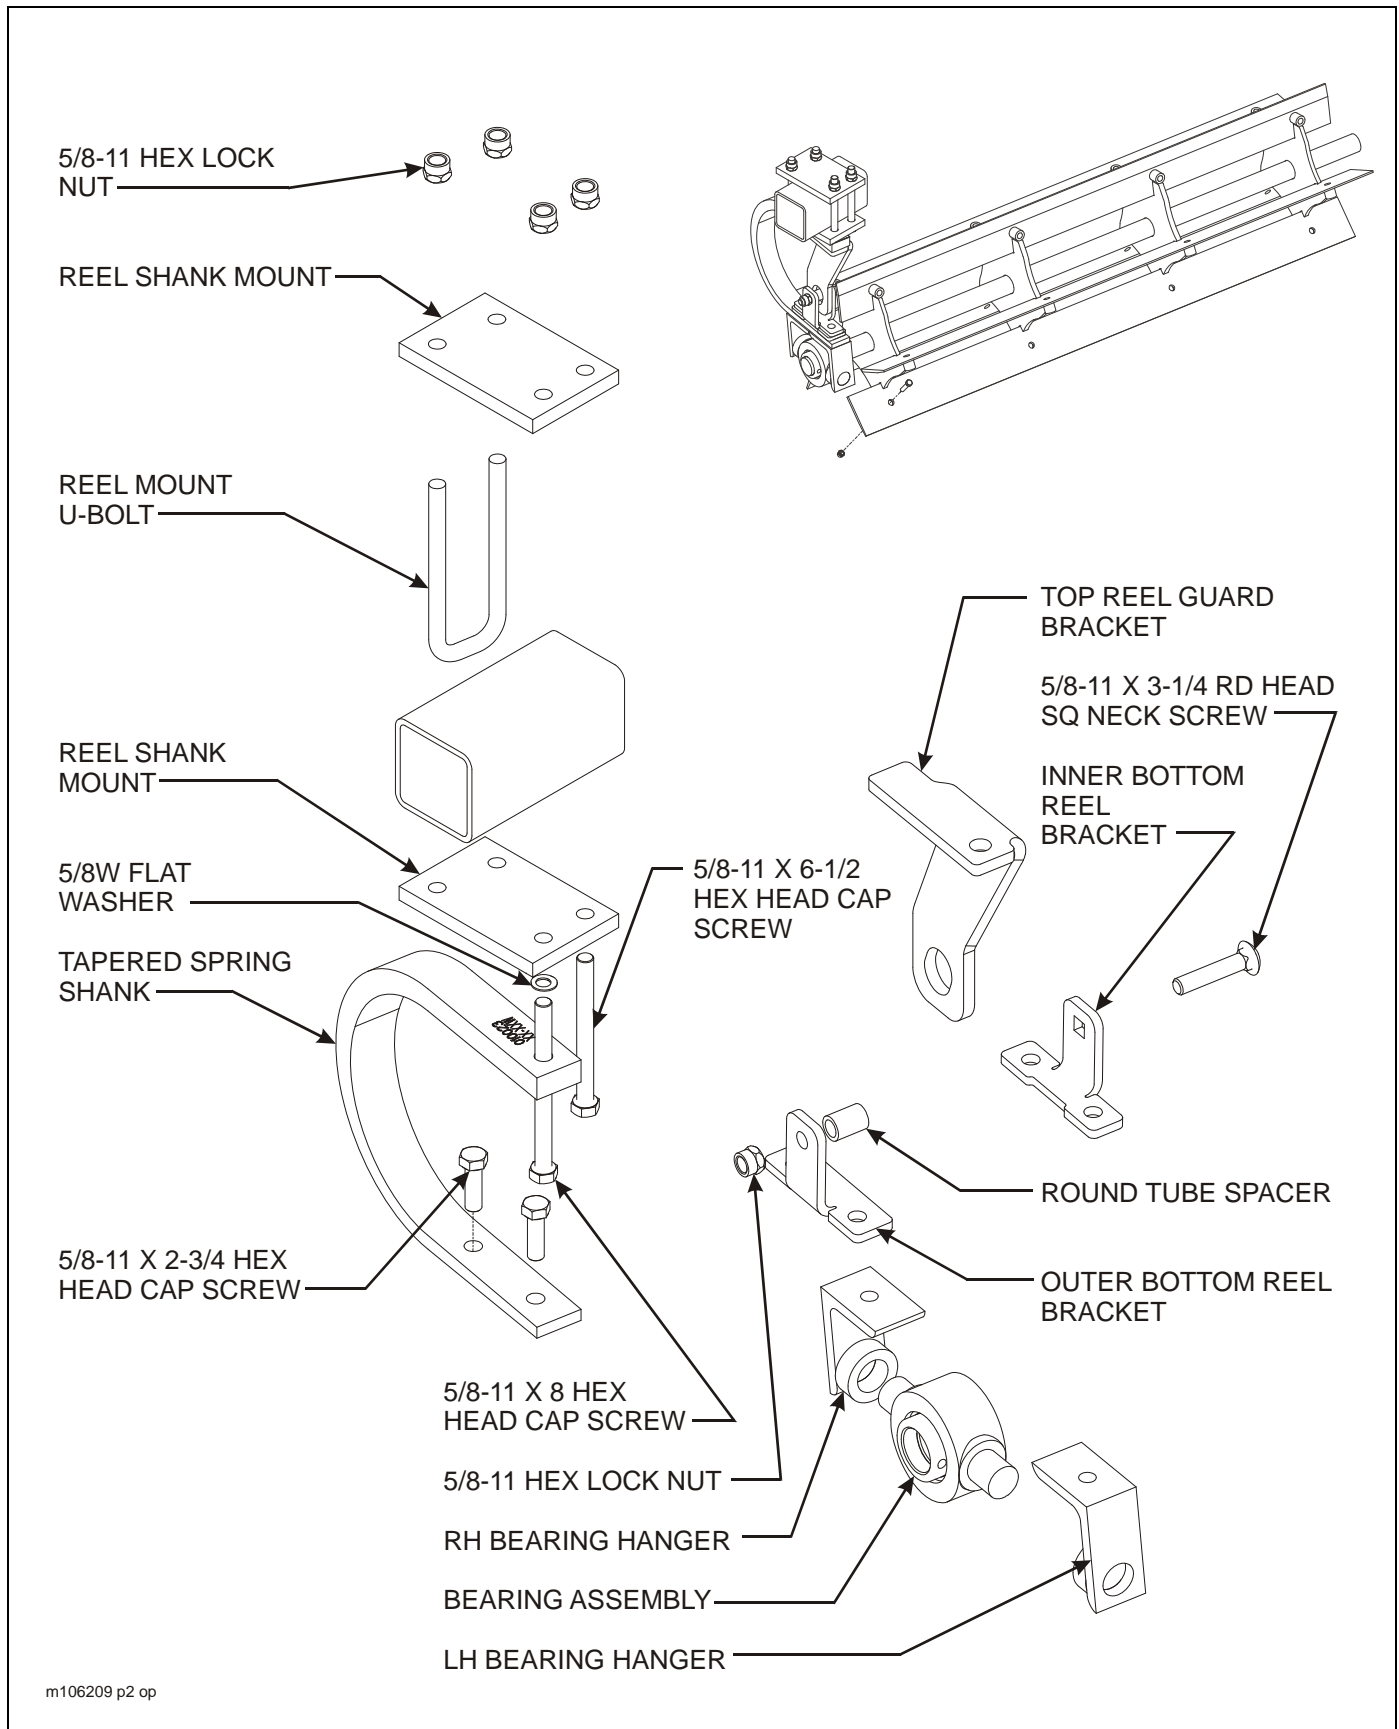

Figure 3-13: Outer Reel Assembly Installation
- f. Carefully lift reel assembly and loosely bolt outer reel shank mount plates, tapered spring shank, and top reel guard bracket to main frame and wings in position shown in **Figure 3-13** using u-bolt, 5/8-11 x 6-1/2 hex head cap screw, 5/8-11 x 8 hex head cap screw and hex lock nuts (**See Figures 2-1 through 2-7 for location on frame.**)